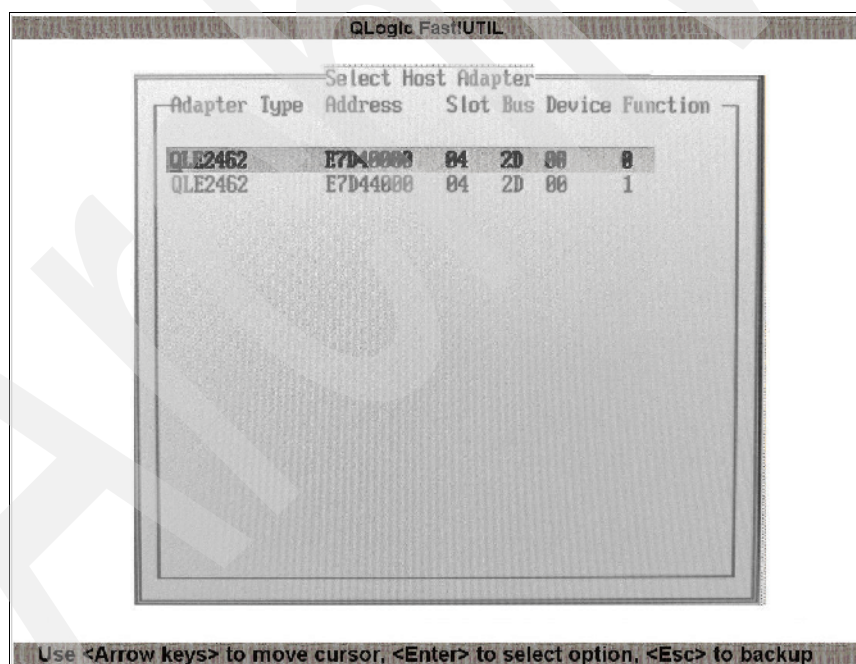
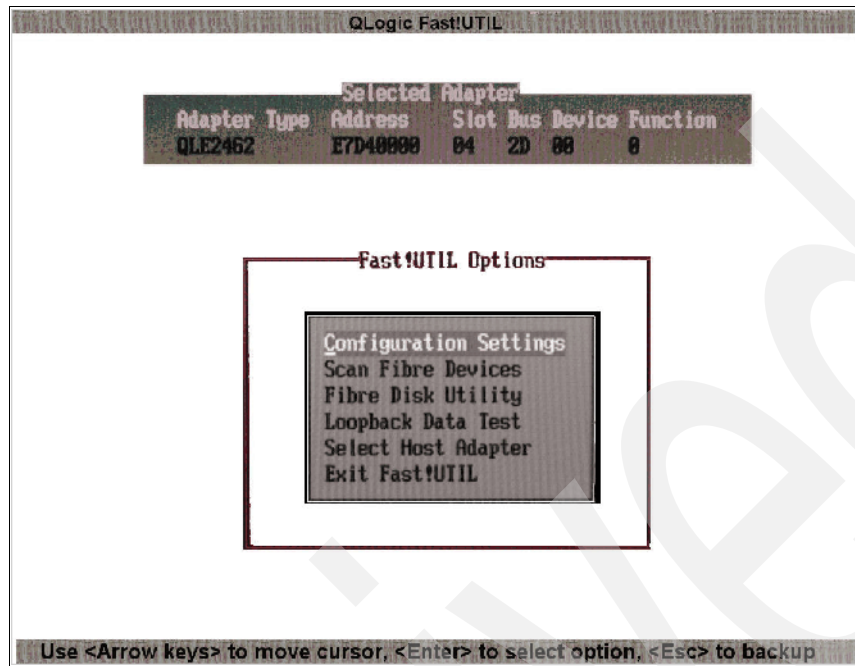

Figure 26-2 Select the FC HBA port
Figure 26-3 Fast!UTIL Options
1. To enter Fast!UTIL, power the host server on and press Ctrl+Q when prompted. The first step is HBA port selection. as shown in Figure 26-2.
2. Select the first HBA port and press Enter. The Fast!UTIL Options menu displays (Figure 26-3). Select **Configuration Settings** and press Enter.
- Switch to the second HBA port. Return to the Fast!UTIL Options menu (Figure 26-3 on page 642) and choose **Select Host Adapter**. You will see two QLE2462 adapter ports displayed, as shown in Figure 26-2 on page 641. Select the second line and press Enter.